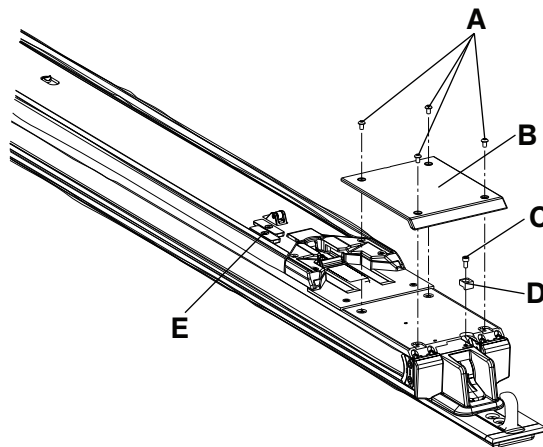

Figure 2 – Foot end transfer components
3. Using a T25 Torx driver, remove the four screws (A) that secure the foot end transfer wear pad (B) to the transfer extrusion (Figure 2).
4. Using a 5/32" hex wrench, remove the screw (C) that secures the trolley magnet activator (D) to the anchor extrusion to remove the trolley magnet activator (Figure 2).
5. Slide both transfer lock triggers (E) to extend and pull the transfer off of the anchor completely (Figure 2).